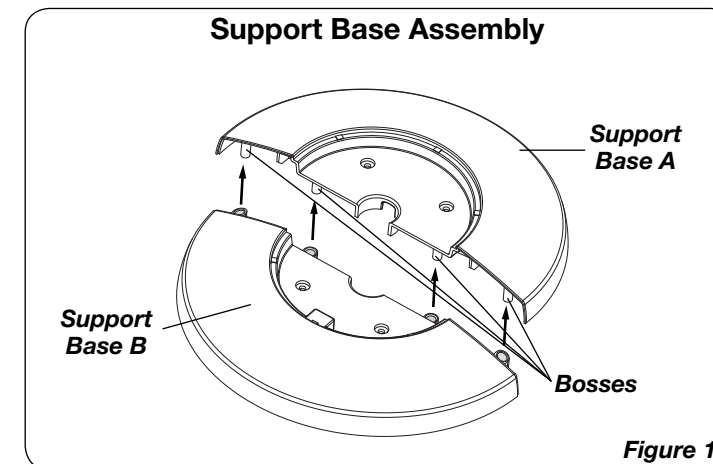

Figure 1
- Assemble the Support Bases by interlocking the **Bosses** on **Support Base A** into the **Boss Holes** on **Support Base B**. Thread the **Power Supply Cord** through the large hole in the center of the Support Base Assembly. (*Figure 1*)